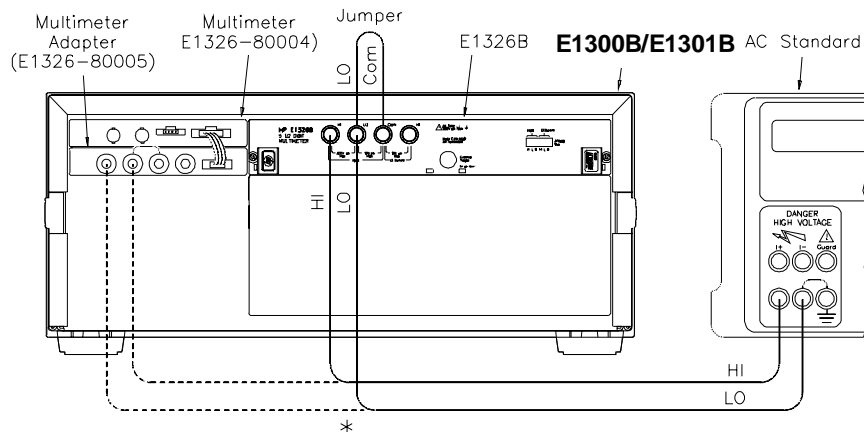

Figure 4-3. AC Voltage Setup
1. Connect the equipment as shown in Figure 4-3. You can connect to the E1326B OR the E1326-80005 terminals, but not to both.